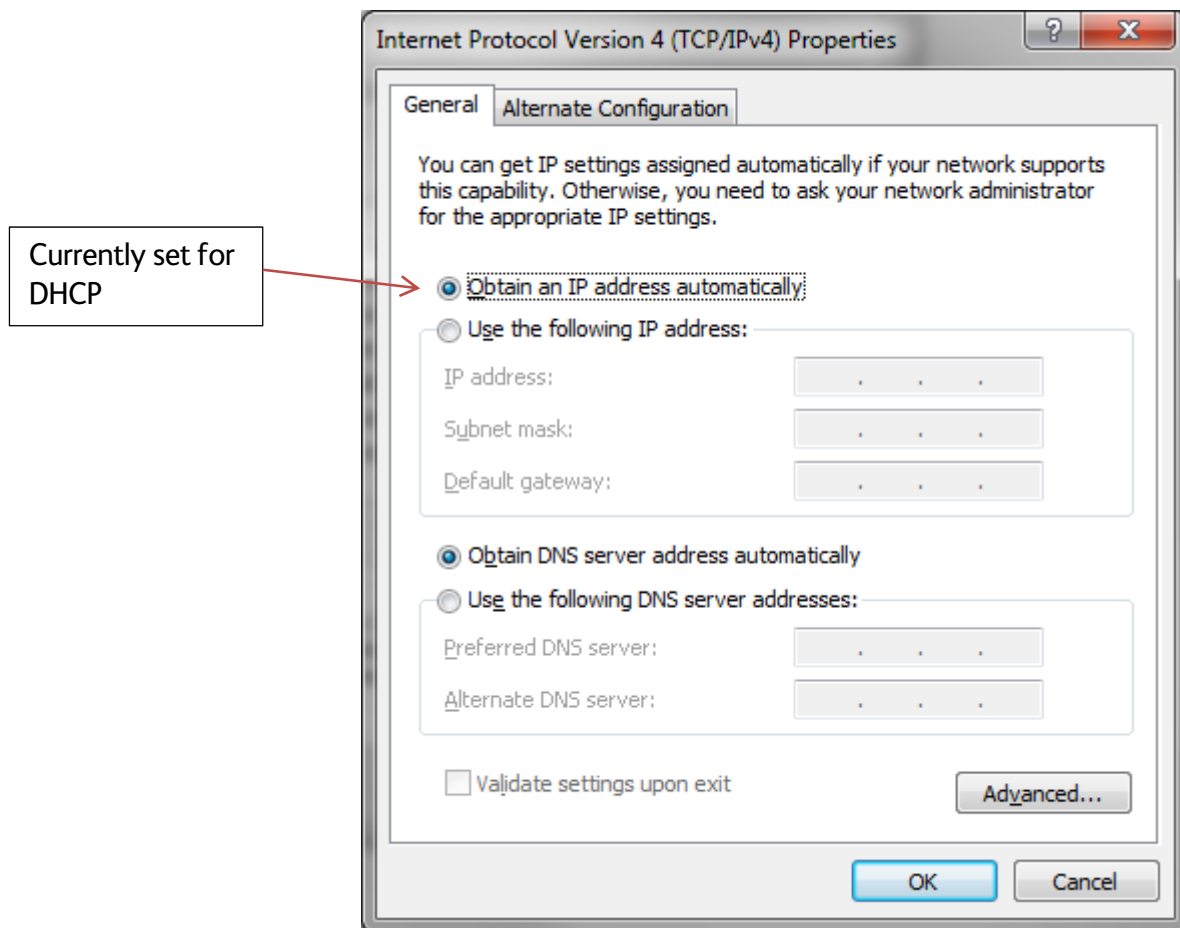

Figure 40 - TCP/IPv4 Properties
- The default setting for many PCs is DHCP addressing as shown in Figure 40.